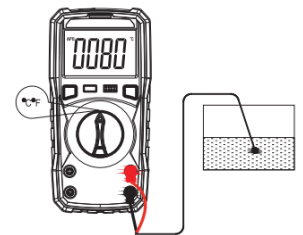

Figure 8
- (1).The LCD displays "OL" while no any inductance input.
- (2).Range "mH" is auto convert range of 2mH/20mH/200mH, and range "H" is the auto range of 2H/20H.
- (3).Do not input voltage at this range.
- (4).Inductance measurement below 0.2mH is for reference only.
**(9).Temperature measurement (Figure 8)**